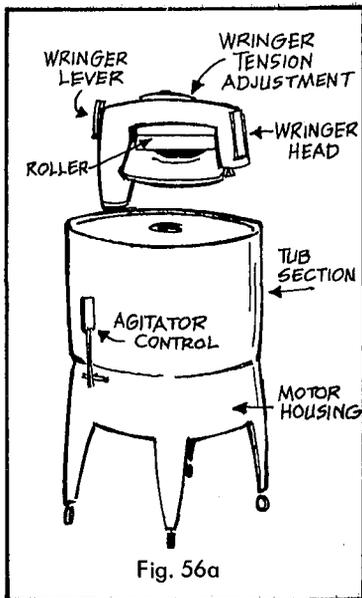

Fig. 56a
### II. Wringer Does Not Operate Properly (Wringer Type, Fig. 56a)
**Remedy:** Adjust for correct pressure or tension. Fig. 56a. There are other wringer troubles of a mechanical nature that cannot be repaired in the home. The wringer can be easily lifted from the machine and taken for repair to a serviceman or manufacturer.
1. Lubrication: With most electrically driven washers, lubrication has been provided at the factory for the life of the washer. However, examine the wringer head and motor (Fig. 56a) for oil holes. Oil motor monthly, with 2 or 3 drops of electric motor oil. Oil casters frequently.